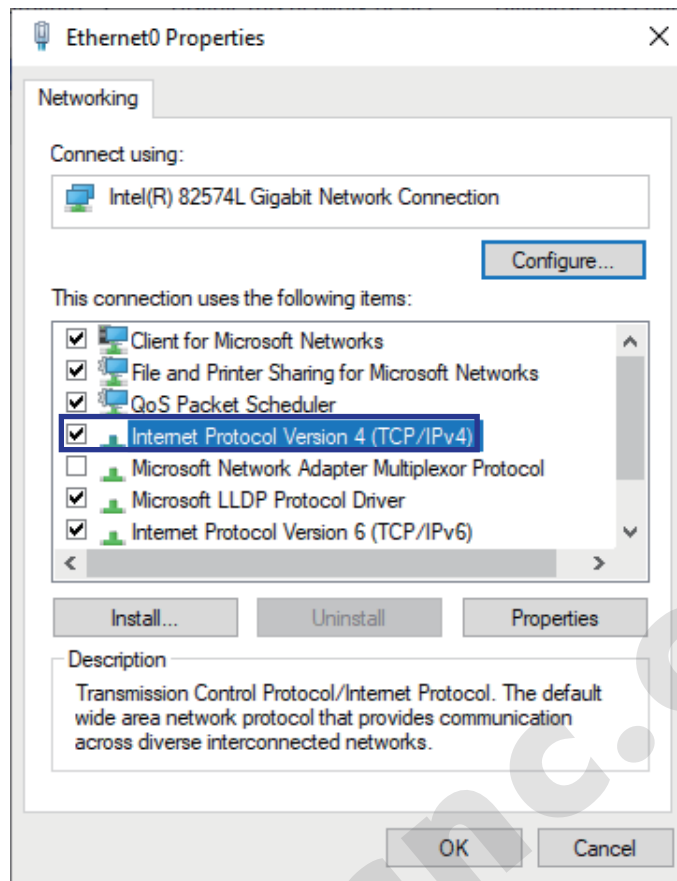

Figure 3
Step 3: Right click and hit “Properties” and it popup the windows and double click “Internet Protocol Version 4 (TCP/IPv4)” as the Figure 3: